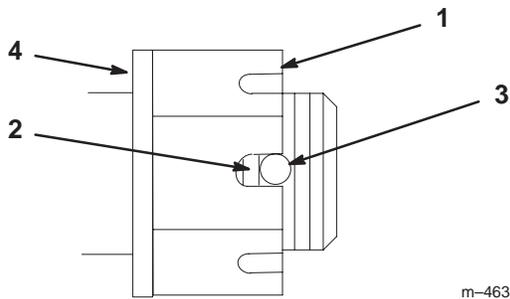

Figure 46
3. Torque slotted nut to 125 ft-lb (170 N•m) (Fig. 46).
4. Check the distance from bottom of slot in nut to inside edge of hole. Two threads or less should be showing (Fig. 46).
5. If more than two threads are showing remove nut and install washer between hub and nut (Fig. 46).
6. Torque the slotted nut to 125 ft-lb (170 N•m) (Fig. 46).
7. Tighten nut until the next set of slots line up with the hole in the shaft (Fig. 46).